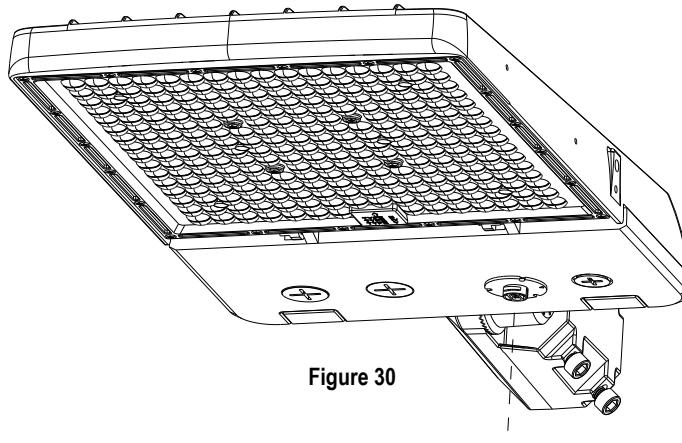

Figure 30
2. Remove the USB-C receptacle cover by turning it 90°. Remove the gasket under the cover as well. (see Fig. 30)